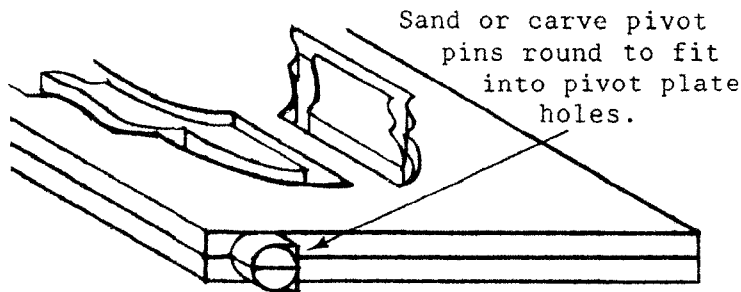

Figure 20
6. Sand or carve the pivot pins round so they will snugly fit into the holes in the pivot plates. Figure 20.